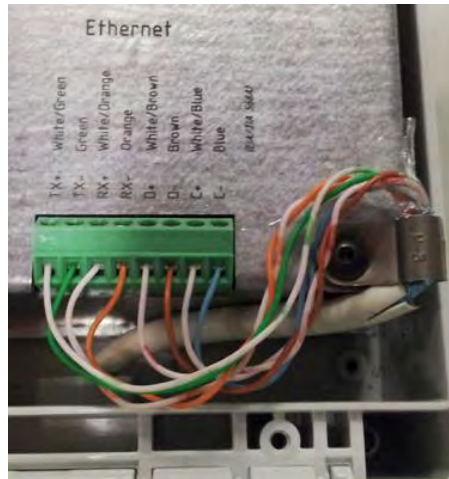

Figure 15: Detail of the connections for the Power through PoE.
- On the Gateway side, the Ethernet cable (not included) must first be inserted into the case through the cable gland. Then, the cables must be unshielded and stripped, and connected into the terminal blocks in the correct order, as described on the Figure 15.